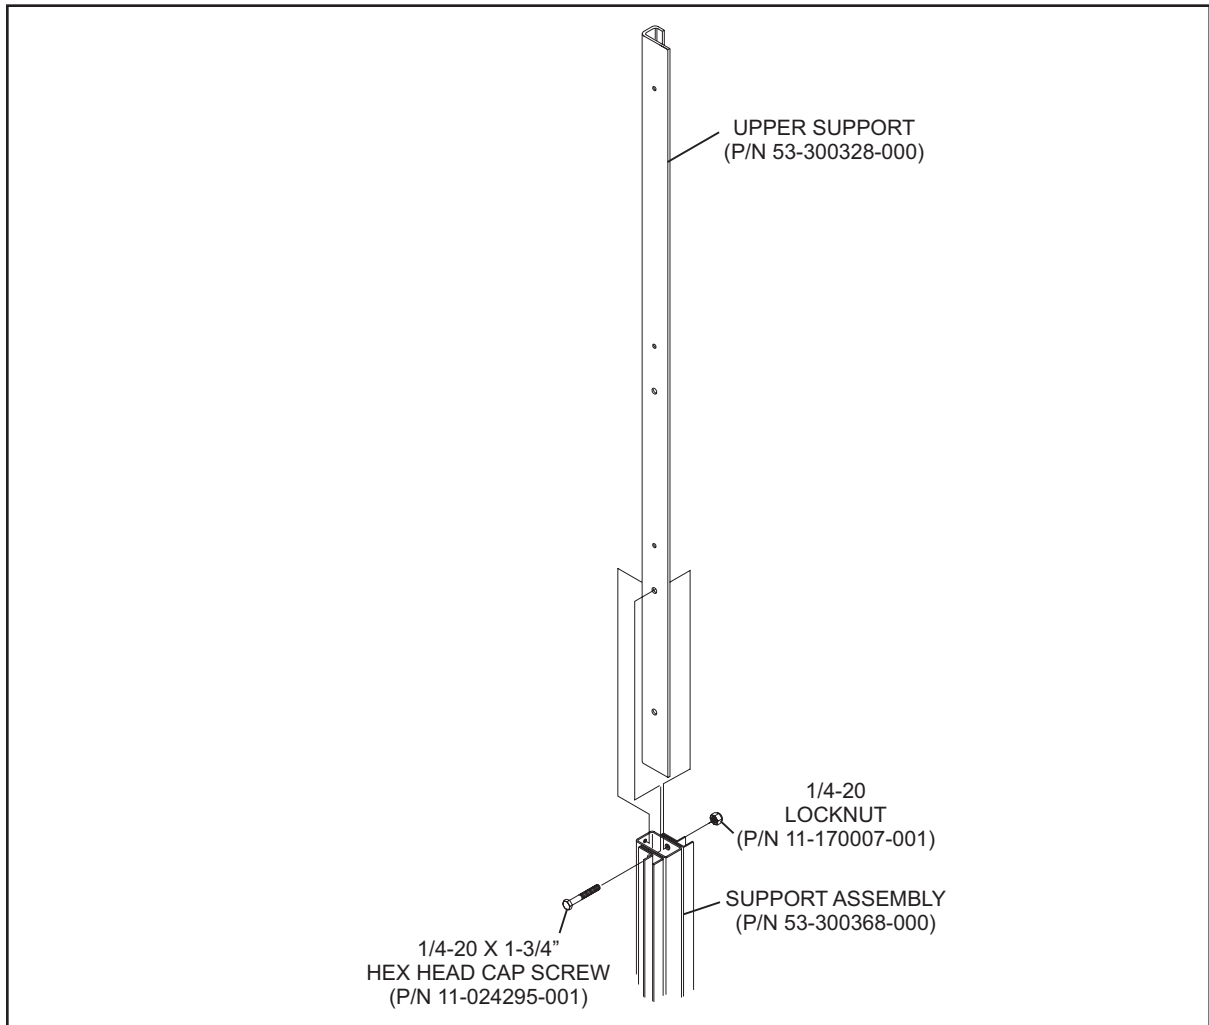

Figure 10
3. Insert upper support into support assembly. Refer to *Figure 10*.
4. Secure upper support to support assembly with 1/4-20 x 1-3/4" hex head cap screw removed in step 2. Refer to *Figure 10*.
4. Secure coupler to support assembly with 1/4-20 x 1-3/4" hex head cap screw removed in step 2. Refer to *Figure 10*.